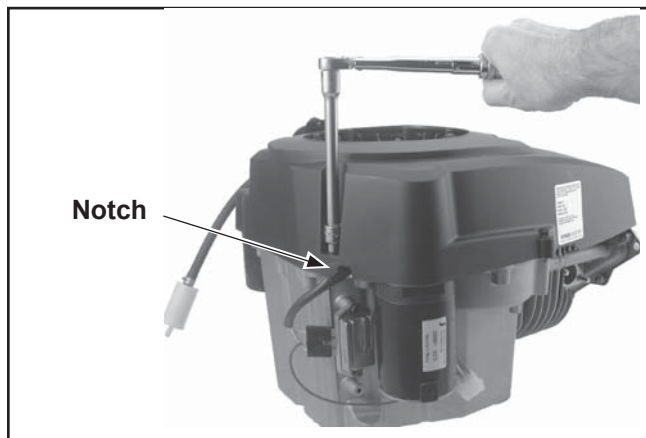

Figure 10-76. Installing Blower Housing Screws.
2. Check that the stator leads are within the notch of the blower housing. Align the mounting locations, then install the four M6 shouldered mounting screws. If a flat washer was used under the head on one screw, install the screw in the location closest to oil fill/dipstick. Torque the screws to **11.6 N·m (99 in. lb.)** into new, as-cast holes, or **7.7 N·m (68 in. lb.)**, into used holes. See Figure 10-76.